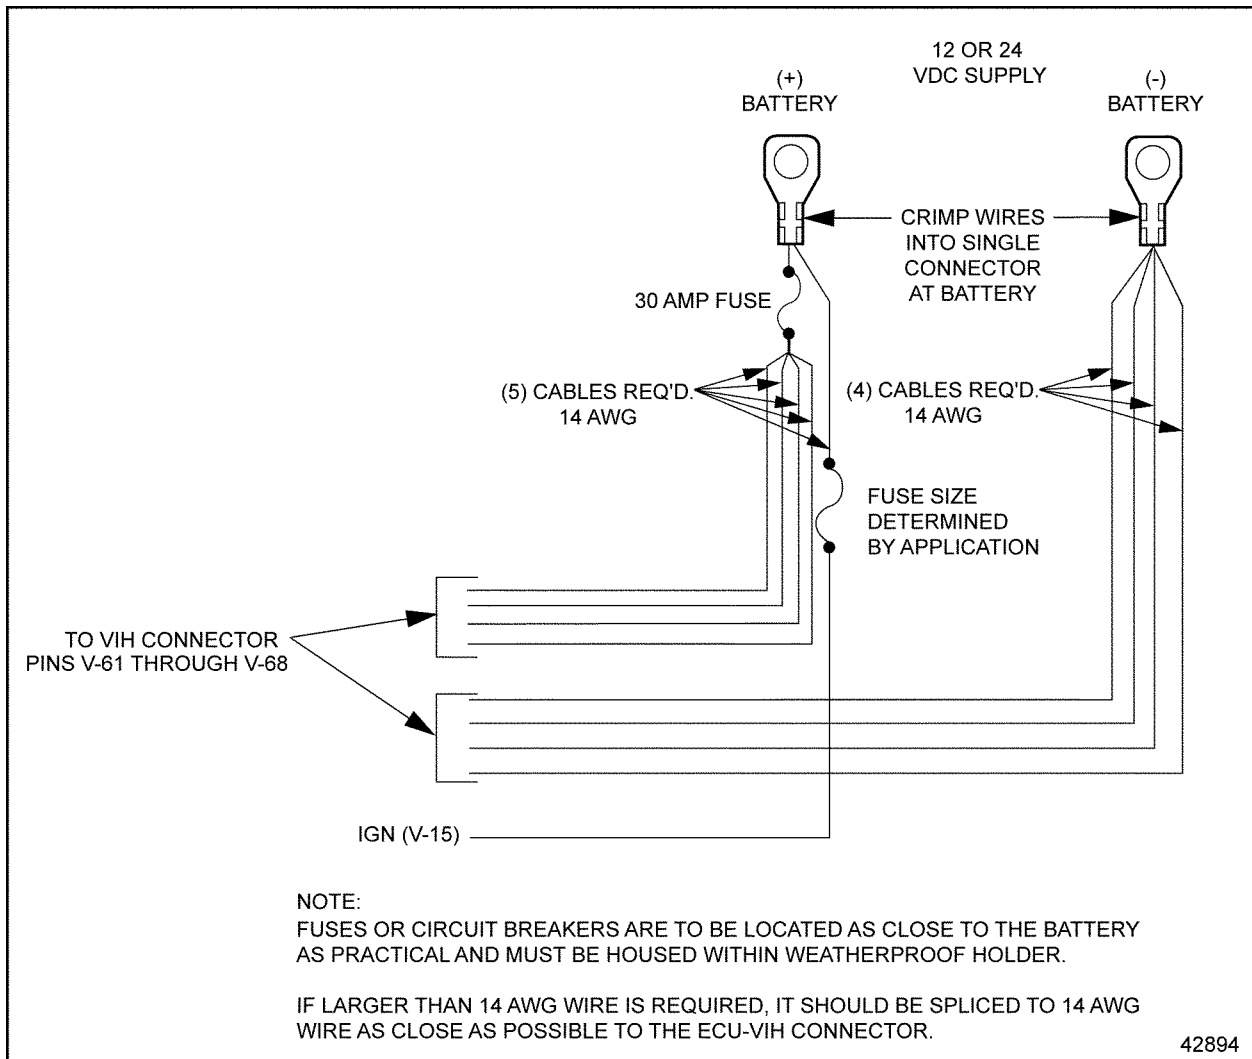

Figure 19-4 Pins V-61 through V-68 to Battery Leads
5. Check ignition fuse or circuit breaker again. See Figure 19-4.